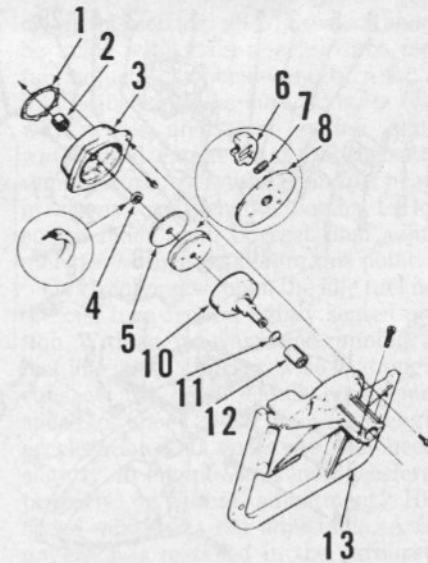

Fig. HL43-5A—Exploded view of ST-400 clutch assembly.
Fig. HL43-5—Exploded view of engine. Drivecase (12) is used on saw engines while pump housing (12A) is used on pump engines. Refer to Fig. HL43-5A for brushcutter drivecase.